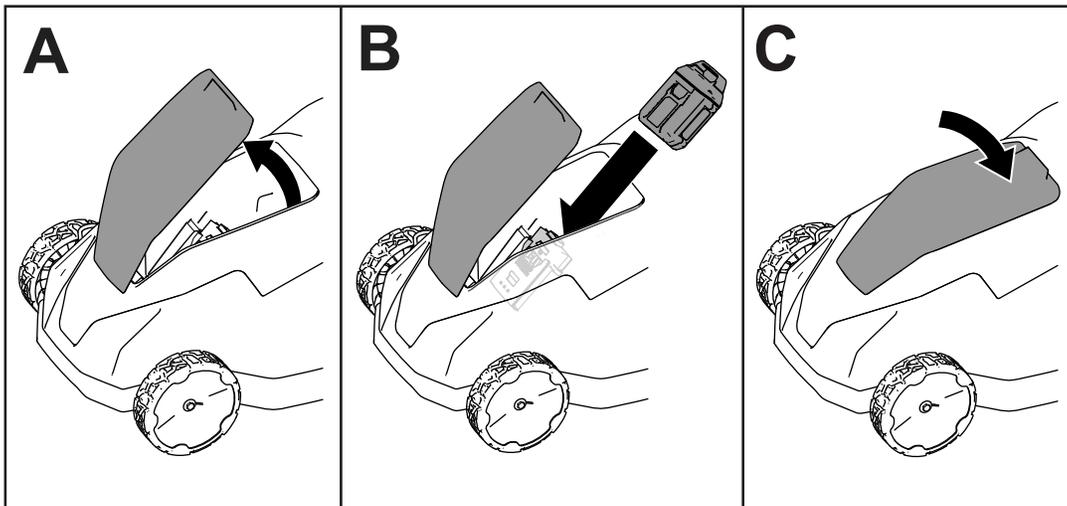

Figure 6
2. Lift up the battery-compartment lid (A of Figure 6).
3. Line up the cavity in the battery pack with the tongue on the machine and slide the battery pack into the compartment until it locks into place (B of Figure 6).
4. Close the battery-compartment lid (C of Figure 6).